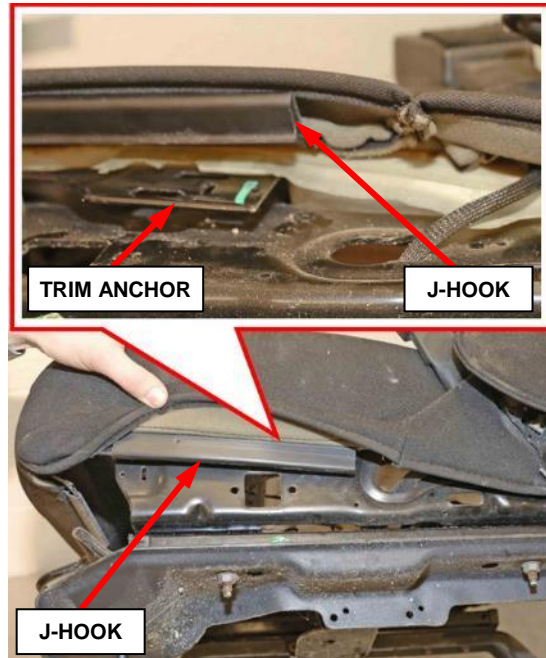

Figure 8 – Trim Cover J-Hook
- 10. Disengage the inboard side of the lower seat cushion trim cover J-hook from the seat cushion trim anchor (Figure 8).
22. Install the inboard side seat cushion trim cover J-hook onto the lower seat cushion trim anchor (Figure 8).